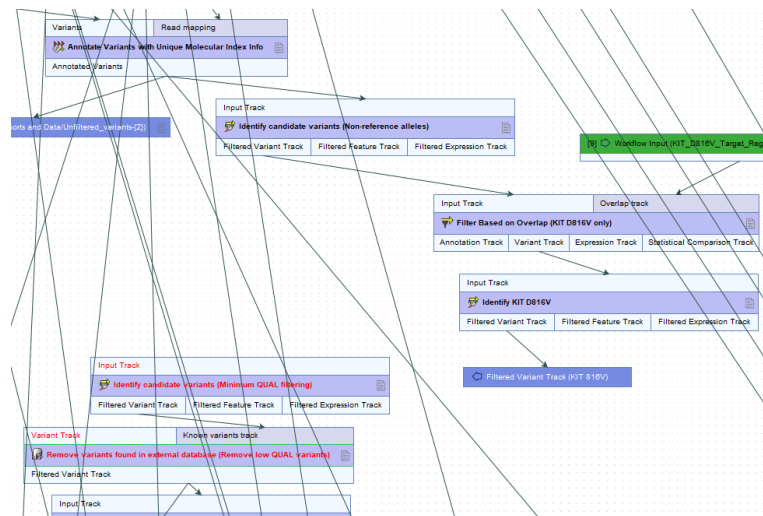

Figure 14: The connection have been removed and tools have been moved down to make space for the two new filtering tools.
29. First remove the connections (highlight and delete) between **Identify candidate variants (Non-reference alleles)** and **Identify candidate variants (Minimum QUAL filtering)**. Remove also the connection between **Annotate Variants with Unique Molecular Index Info** and **Remove variants found in external database (Remove low QUAL variants)**. Then drag the tools below the **Identify candidate variants (Non-reference alleles)** a bit down to make space for the two new filtering tools to be added as shown in figure 14.